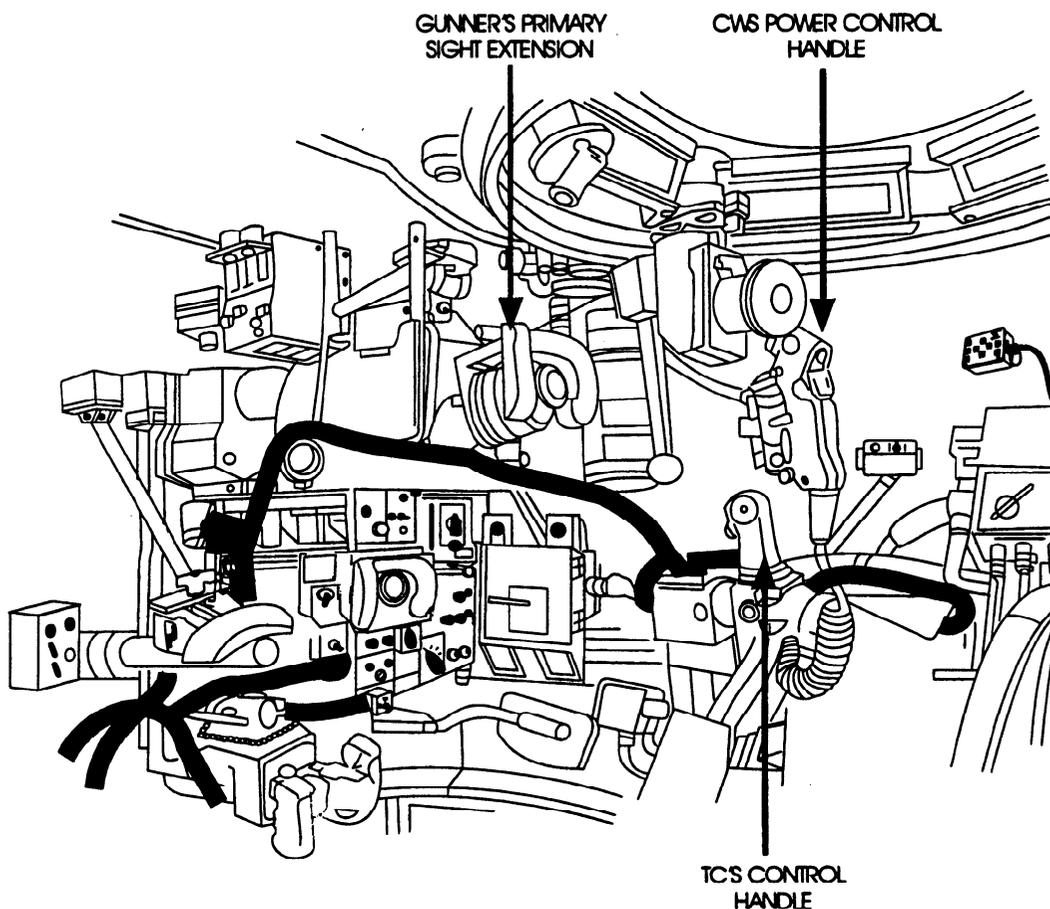

Figure 2-11. TC's Station
2.3.1.1 TC's Control Handle. The TC's Control Handle, shown in Figure 2-11, provides the TC the same control of the turret and the fire control system in simulated engagements that the TC has in actual live-fire engagements. Movement of the handle simulates a simultaneous movement of turret and gun sight visuals identical to actual tank movements. The activation of the handle overrides the Gunner's Power Control Handles. The following switches on the handle are active:
2.3.1.2 CWS Power Control Handle. Traversing the CWS is simulated when the TC moves the CWS Power Control handle, shown in Figure 2-11.
2.3.1.3 Gunner's Primary Sight Extension (GPSE). The GPSE, shown in Figure 2-11, is active at all times. The TC has the same GPSE view as the Gunner. Complete failure of the GPS will cause complete failure of the GPSE. When the Gunner is looking through the GAS, the TC can observe the GAS view in the GPSE, but without the GAS or GPS reticles. This view is provided to the TC so the TC will not experience the disorienting effect of having the GPSE switch from full-view to black and back to full-view as the Gunner selects the sight.